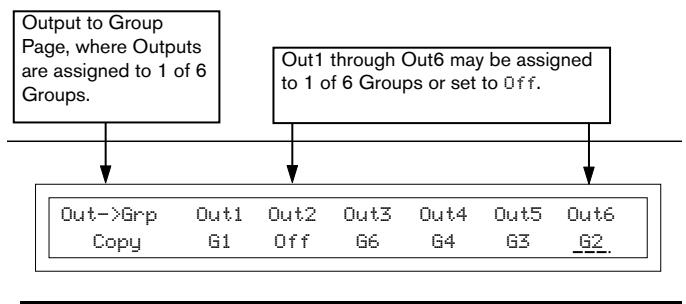
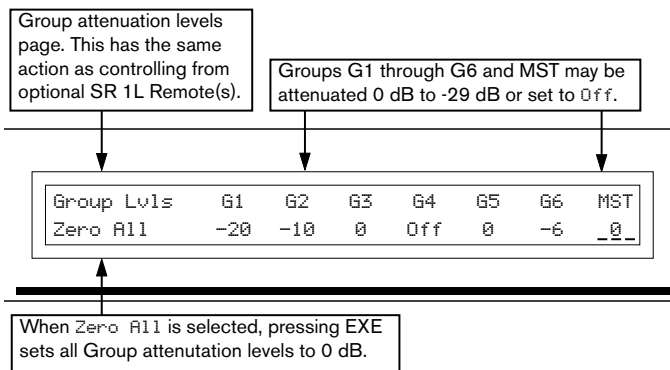
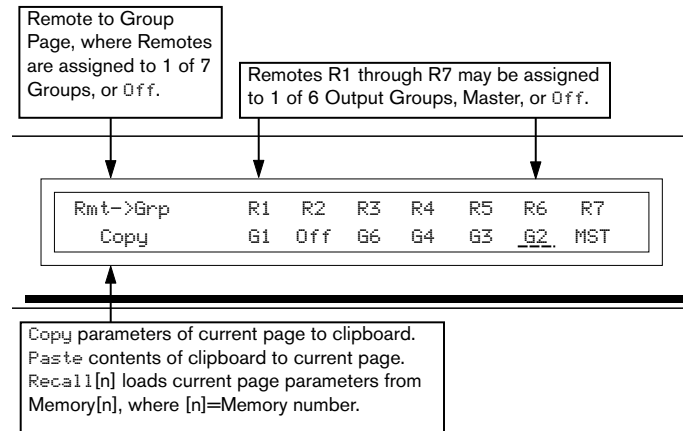
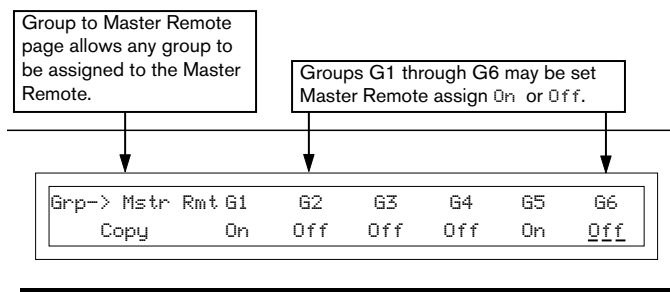

Figure 2. Output to Group Edit Page
Figure 3. Group Levels Edit Page
Figure 5. Remote to Group Assign Page
Figure 4. Group to Master Remote Assign Page
- ⑤ **REMOTE INTERFACE PORT (RIP).** This Port supports up to seven optional SR 1L "Smart" digital Remote controls as seen in Figure 4 on page Manual-5. Each Remote may be assigned to adjust the Level of any one of the six SRM 66 Output Groups or the Master Group.
- ⑥ **OUTPUT GAIN switches.** These assist setting the optimal gain structure of the Output stage, depending on what the following device would like to see (or hear). Balanced signals usually require a +4 dBu setting (button *out*), and unbalanced signals usually require the -10 dBV setting (button *in*).
- ⑦ **OUTPUTS.** These balanced Euroblock connectors may be wired balanced or unbalanced. See page Manual-1 or RaneNote 110, "Sound System Interconnection" later in this manual for assistance.
- ⑧ **INPUT GAIN switches.** These assist setting the optimal gain structure of the Input stage, depending on the level from the previous device. Balanced signals usually require a +4 dBu setting (button *out*), and unbalanced signals usually require the -10 dBV setting (button *in*). Use the MIX INPUT HEADROOM meters as a guide for determining GAIN switch position (see ① in the Front Panel Description).
- ⑨ **INPUTS.** These balanced Euroblock connectors may be wired balanced or unbalanced. See page Manual-1 or RaneNote 110, "Sound System Interconnection" elsewhere in this manual for assistance.
The Output to Group Assign page is shown in Figure 2. Outputs can be assigned to 1 of 6 Output Groups or no Group (*off*). For example, a stereo Output pair would typically be assigned to the same Output Group in order to ensure that the two stereo Outputs limit together and are controlled by the same Output Group Level. Output Group Levels may be controlled from the Group Level page shown in Figure 3 or by any SR 1L remote assigned to the Group on the Remote to Group page shown in Figure 5.
The Group to Master Remote assignment page is shown in Figure 4. Any number of the six (6) possible Output Groups can be assigned to the Master Group. The Level of all Output Groups assigned to the Master Group can be controlled by the MST control on the Group Level page shown in Figure 3 or by any SR 1L remote assigned to the Master Group on the Remote to Group Assign page shown in Figure 5. This feature
Each SR 1L Remote must have a unique address (1-7). Any of the possible seven (7) Remotes may be assigned to any one of the six (6) possible Output Groups, to the Master Group or set to off. See the Remote to Group Assign page in Figure 5. If a Groups level is altered by one of the SRM 66s Group Level controls (Fig. 3), then every Remote assigned to that Group is updated to reflect the new setting. If a Group Level is adjusted by a Remote, then the SRM 66’s Group Level page is updated to reflect the new setting.